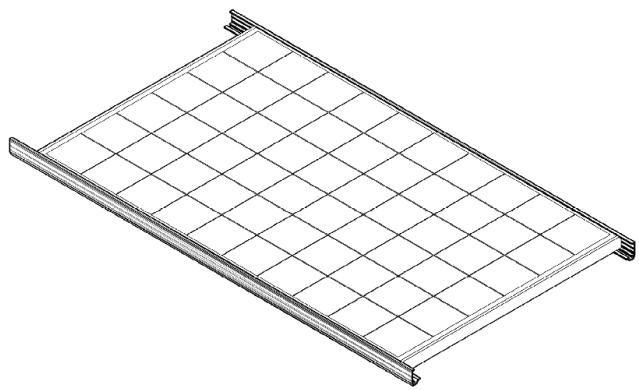

figure3
- Insertion system: Insert the whole module into the rail, show in figure3